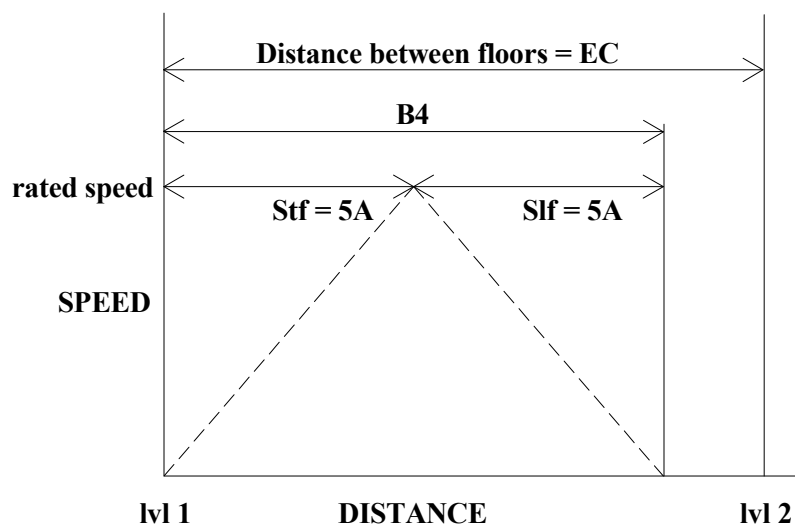

Fig 6a. (Ref. TurboCad – Pulse Graphs)
As shown in Fig 6a, B4 is less than EC, which means the processor will calculate that the full speed relay **can** be picked for a run between level 1 and 2. Ie, rated (max) speed is selected when $Stf + Slf (B4) < \text{the commencing floor run hex value (EC)}$.
As explained by Fig 6a, fast speed can be selected.